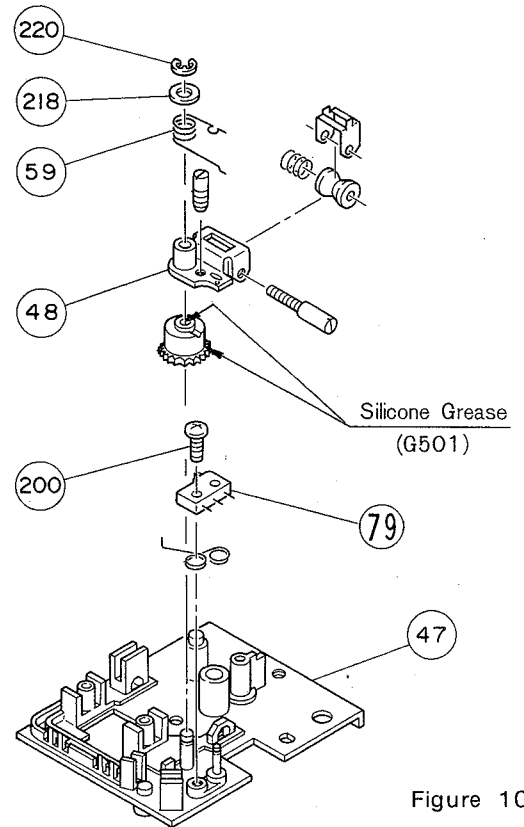

Figure 10
**(E) REMOVE THE SWITCH (79) ON THE BRACKET K (47) AS FOLLOWS:**
1. Remove the E type Washer (220) 2φ on Bracket K (47).
2. Remove the Washer (218) and Spring (59).
3. Remove the Bracket (48).
4. Remove the Screw (200) (Fig. 10).